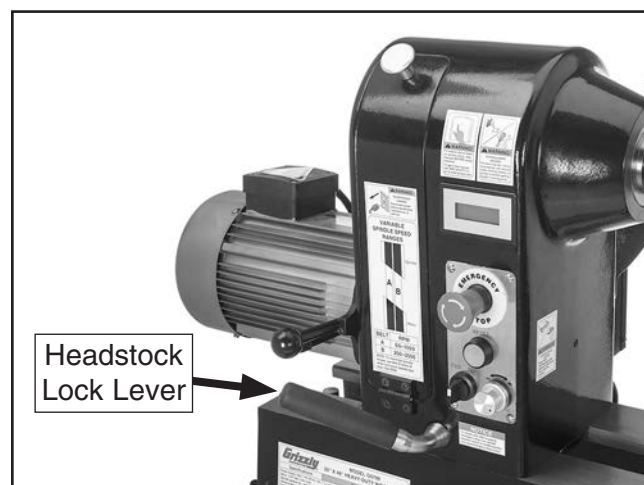

Figure 29. Headstock lock lever location.
2. Loosen headstock lock lever (see **Figure 29**).